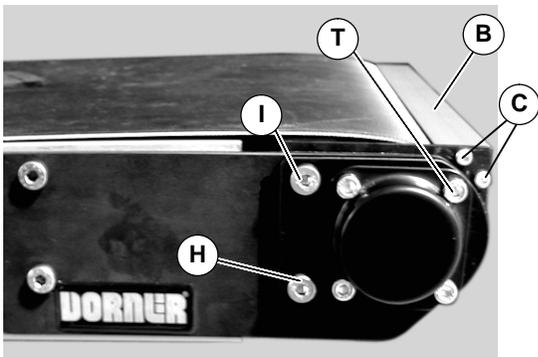

Figure 27
10. Place transfer plate support (B of Figure 27) on end of conveyor and attach with screws (C) tighten to 50 in-lbs (5.6 N-m).
11. Tighten screws (H and I of Figure 27) to 146 in-lbs (16.5 N-m) and tighten screw (T) on side of conveyor opposite the drive.